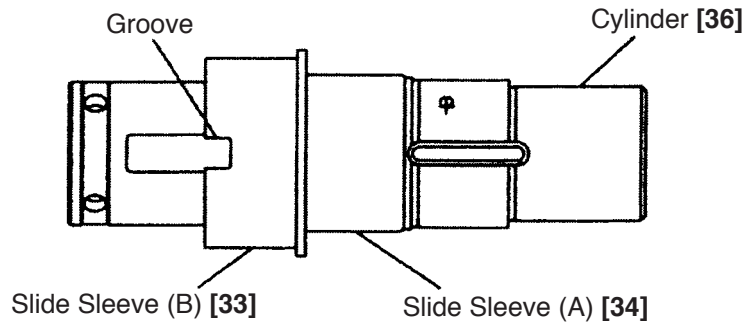

Fig. 24
(3) Mounting components in the Cylinder [36]
Fit Slide Sleeve (A) [34] and Slide Sleeve (B) [33] on the outer circumferrence of the Cylinder [36] and move Slide Sleeve (A) [34] and Slide Sleeve (B) [33] until they contact the outside flange of the Cylinder [36]. At this time, align the slotted hole of the Cylinder [36] with the groove of Slide Sleeve (B) [33]. (Fig. 24)